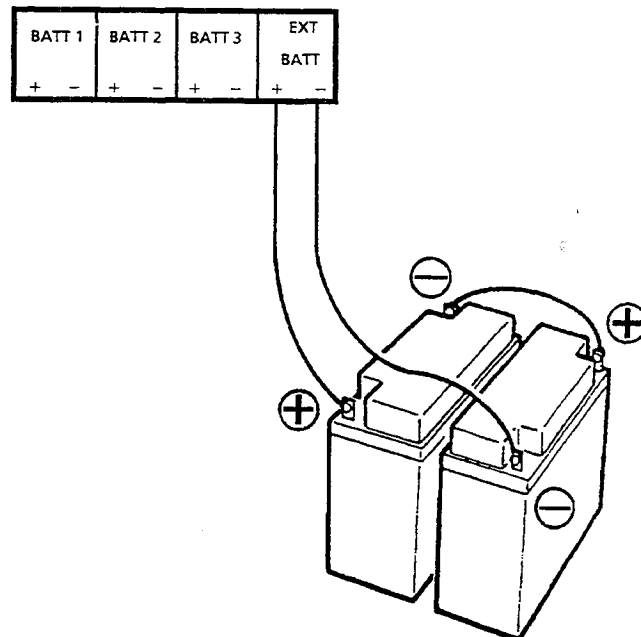

Figure 3-62 Connecting the External Battery to the Terminal Board
2. Connect the external battery to the terminal board. Refer to Figure 3-62 - Connecting the External Battery to the Terminal Board.